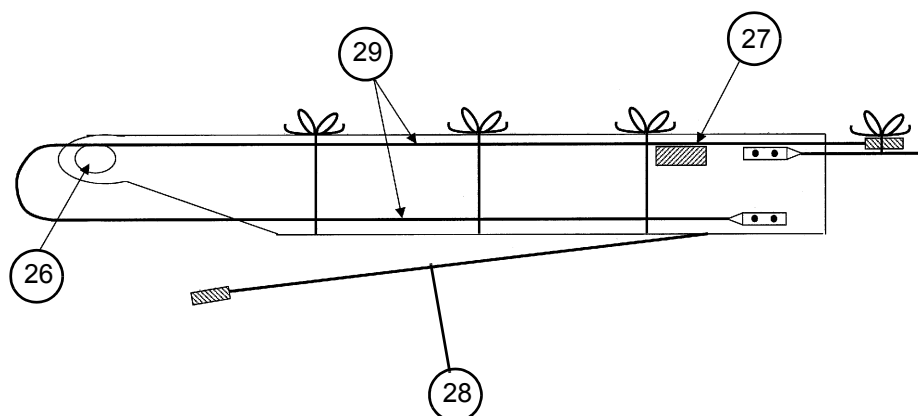

Figure 8
- Put the pin into place (26).
- Prepare the slings on the head element (see Figure 8).
*NB: Hold the sling (29) in the position shown to prevent the top strand from passing under the bottom strand.